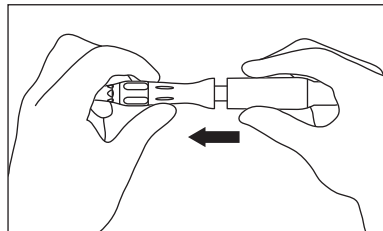

Fig. 10
6) Remove the handpiece from the motor. (Fig. 10)